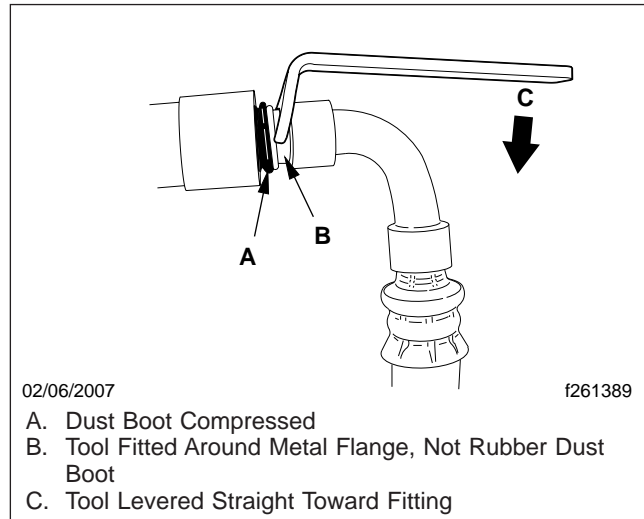

Fig. 3, Quick-Disconnect Fitting Removal with Kent-Moore Tool J-48548
4. Push the installed connector straight into the port until it stops, with the rubber dust boot compressed; see Fig. 3.